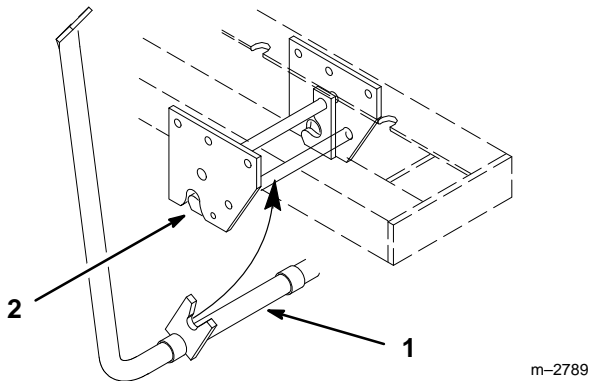

Figure 14
4. Open mid hitch and remove handle support (Fig. 14).